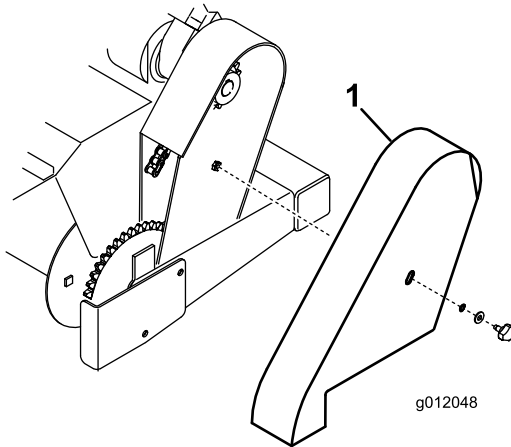

Figure 23
1. Loosen the capscrew securing the chain cover to the frame and remove the cover (Figure 23). The fastener on the cover is designed to remain on the cover after removal.